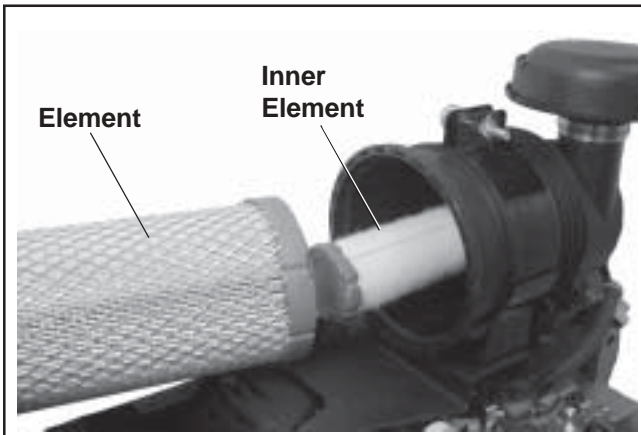

**Figure 4-12. Heavy-Duty Air Cleaner.**
Most engines are equipped with a replaceable, high-density paper air cleaner element, surrounded by an oiled foam precleaner, and housed under a flat outer cover. This is typically referred to as the standard air cleaner assembly. See Figures 4-1 and 4-4. Some engines utilize a heavy-duty style air cleaner as shown in Figure 4-12.
7. Reinstall the end cap so the dust ejector valve is down, and secure with the two retaining clips. See Figure 4-12.